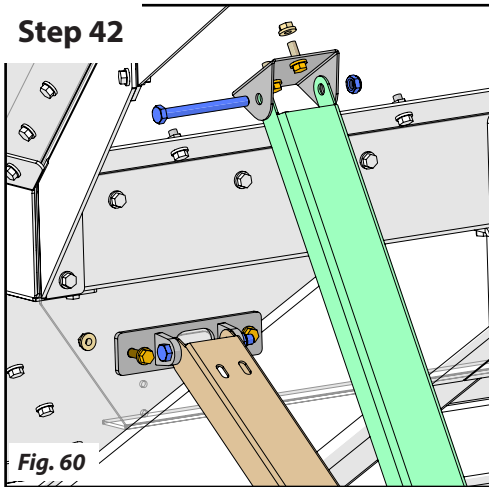
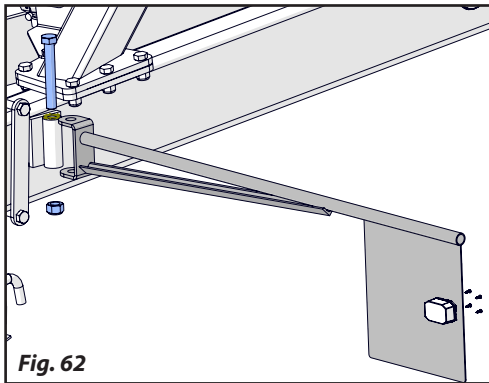
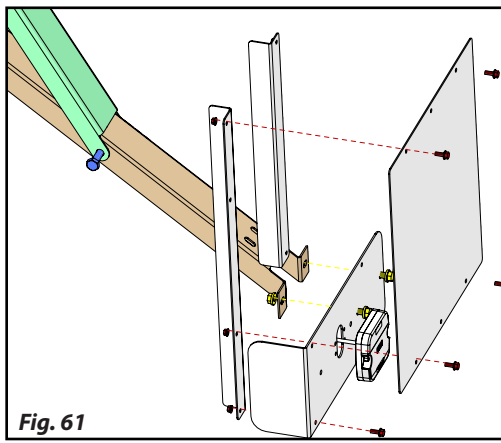

Fig. 60
Fig. 62
Fig. 61
- Install the rear light arm brackets using (4) M10 x 25 hex nut and (4) M10 serrated flange hex nut. Hardware is shown in orange in figure 60.
- Attach the arms (shown in green and brown) to the brackets and to each other with (3) M12 x 120 hex bolt and (3) M12 nylon locking nuts. Hardware is shown in blue here.
- The light bracket is attached with (2) M10 x 25 hex bolts and (2) M10 serrated flange hex nuts and are shown in yellow in figure 61.
- The plate and support brackets for the plate are mounted as shown using (5) M6 x 16 hex bolts, and (5) M6 serrated flange hex nuts.
- Install the front position light arm brackets as shown in Figure 62. Fasten to the cart using a M20 x 140 hex bolt, M20 lock washer, and M20 nylon locking hex nut.